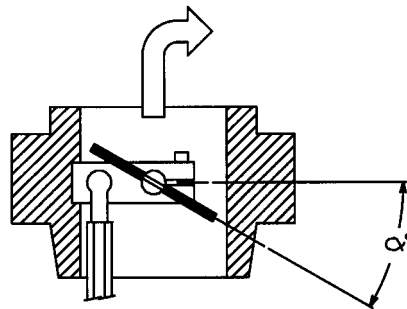

Fig. 32
- 3 Adjust the gas flow rate in the low-flame position (same position as the ignition) by means of the adjustable screws V (Fig. 33), to change the opening angle of the throttle valve (Fig. 32); rotate clockwise to increase the flow rate or anticlockwise to decrease it.